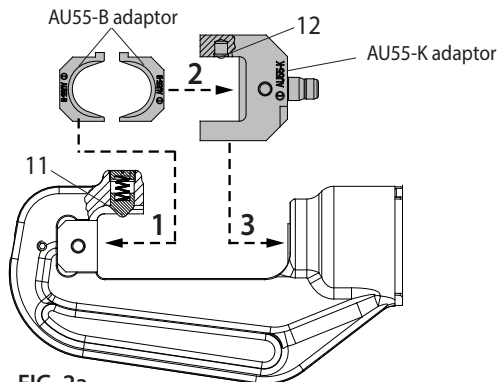

FIG. 2a
- Insert half of the adaptor AU55-B in the upper seat of the head (1) and the second half into the adaptor AU55-K (2); the two halves of the adaptor will be held by pins (11 and 12).
- Insert the adaptor AU55-K into the seat of the ram (3) (see Fig. 2a).